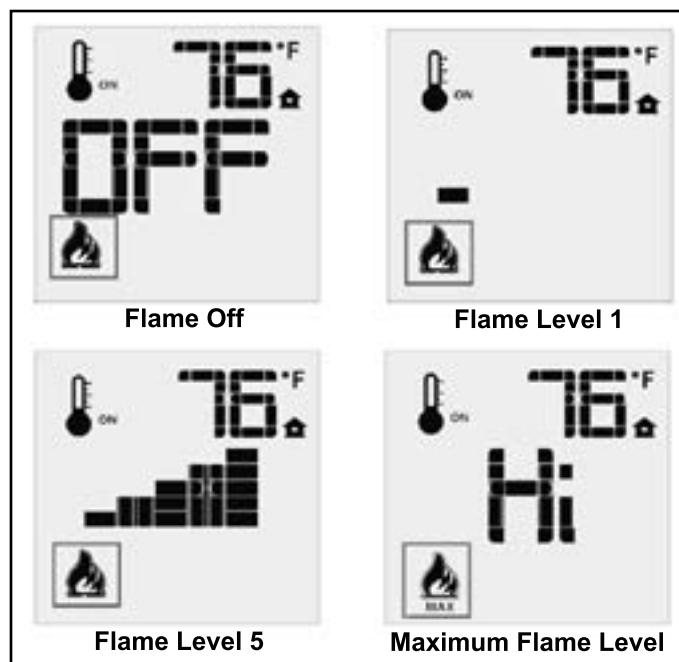

Figure 11: Remote Control's Flame Levels.
The Proflame 2 GTMF has six (6) flame levels. With the system on, and the flame level at the maximum in the appliance, pressing the Down Arrow Key once will reduce the flame height by one step until the flame is turned off. The Up Arrow Key will increase the flame height each time it is pressed. If the Up Arrow Key is pressed while the system is on but the flame is off, the flame will come on in the high position (refer to Figure 11). A single "beep" will confirm reception of the command.